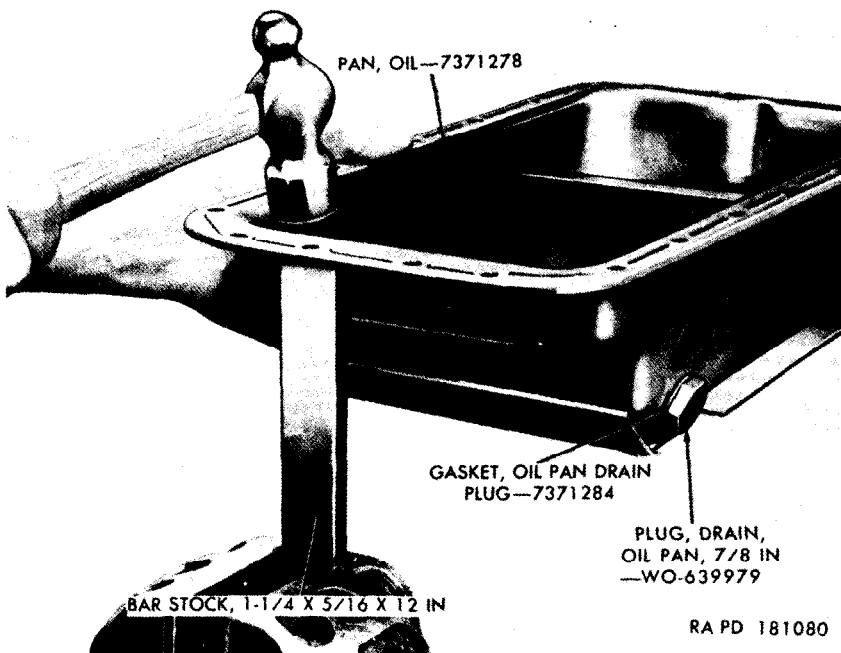

Figure 69. Straightening bolting flange of oil pan.
(1) Replace the crankshaft front oil seal.
- (2) **Replace** the cover if the cover is dented or warped out of shape.
- (3) **Examine** the bolting flange of the cover for distortion or stretching of the metal around the attaching bolt holes. If necessary, smooth out the rough areas of the flange following the procedures given in paragraph 89*b* and shown in figure 69.
a. Disassembly and Assembly. Remove the oil pan drain plug (fig. 69) from the side of the oil pan. Replace the oil pan drain plug gasket. Install the $\frac{7}{8}$ -inch drain plug.
12 (fig. 69) in a bench vise and, using the bar stock as an anvil, flatten any distorted areas to a smooth level surface. Replace the oil pan if it is deeply dented, distorted, or out of shape.